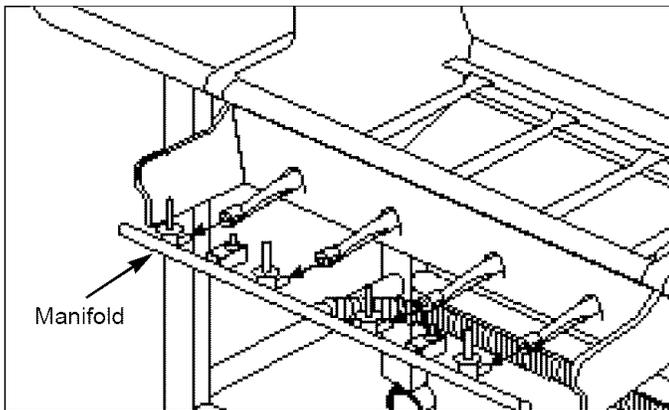

Figure 13
10. Pull the manifold out of the burners. Figure 13.